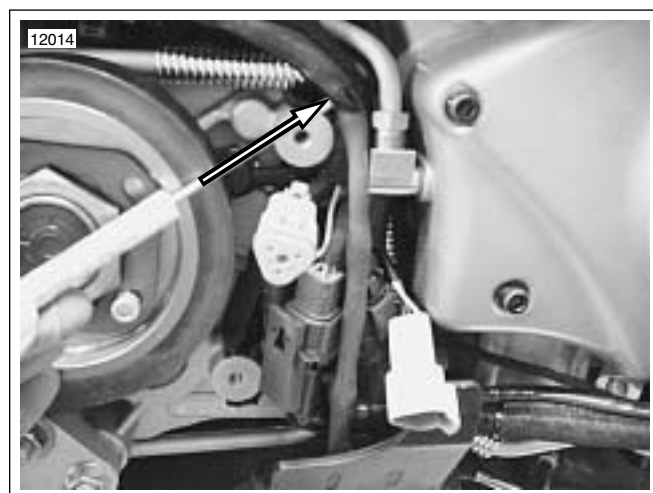

Figure 7-93. Cable Strap Wire Bundle to Return Oil Line, Upper Part of Sprocket Cover
12. See Figure 7-93. Capture the main wire harness bundle, the vehicle speed sensor lead, the stator bundle, and the muffler actuator cable (if applicable) to the oil return line with a cable strap.